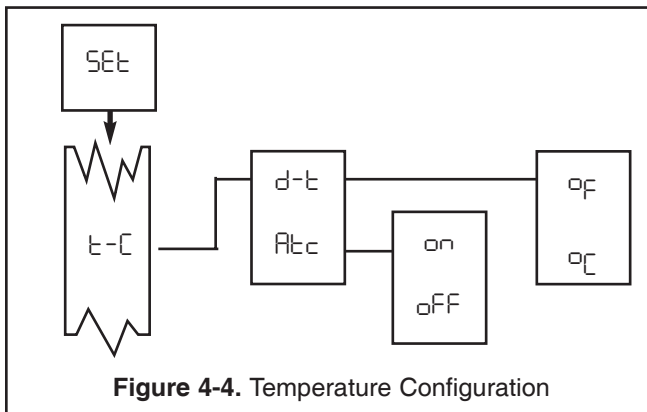

Figure 4-4. Temperature Configuration
4.4.1 Temperature Configuration ($t-C$). Refer to Figure 4-4.